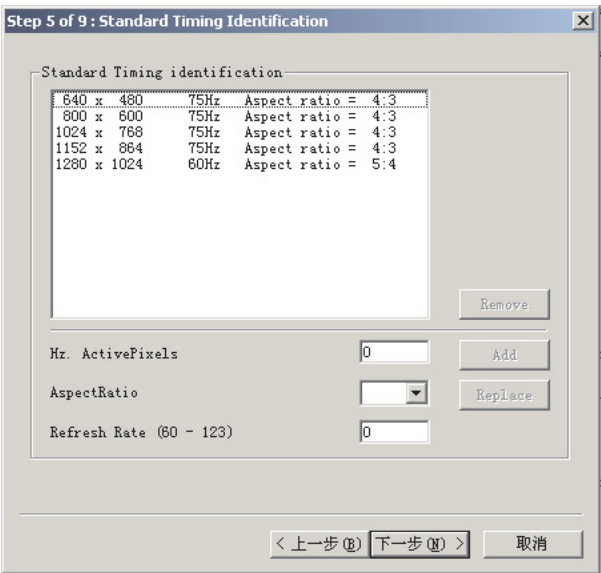

Fig. 18
4. Click Next , bring up Fig. 18.